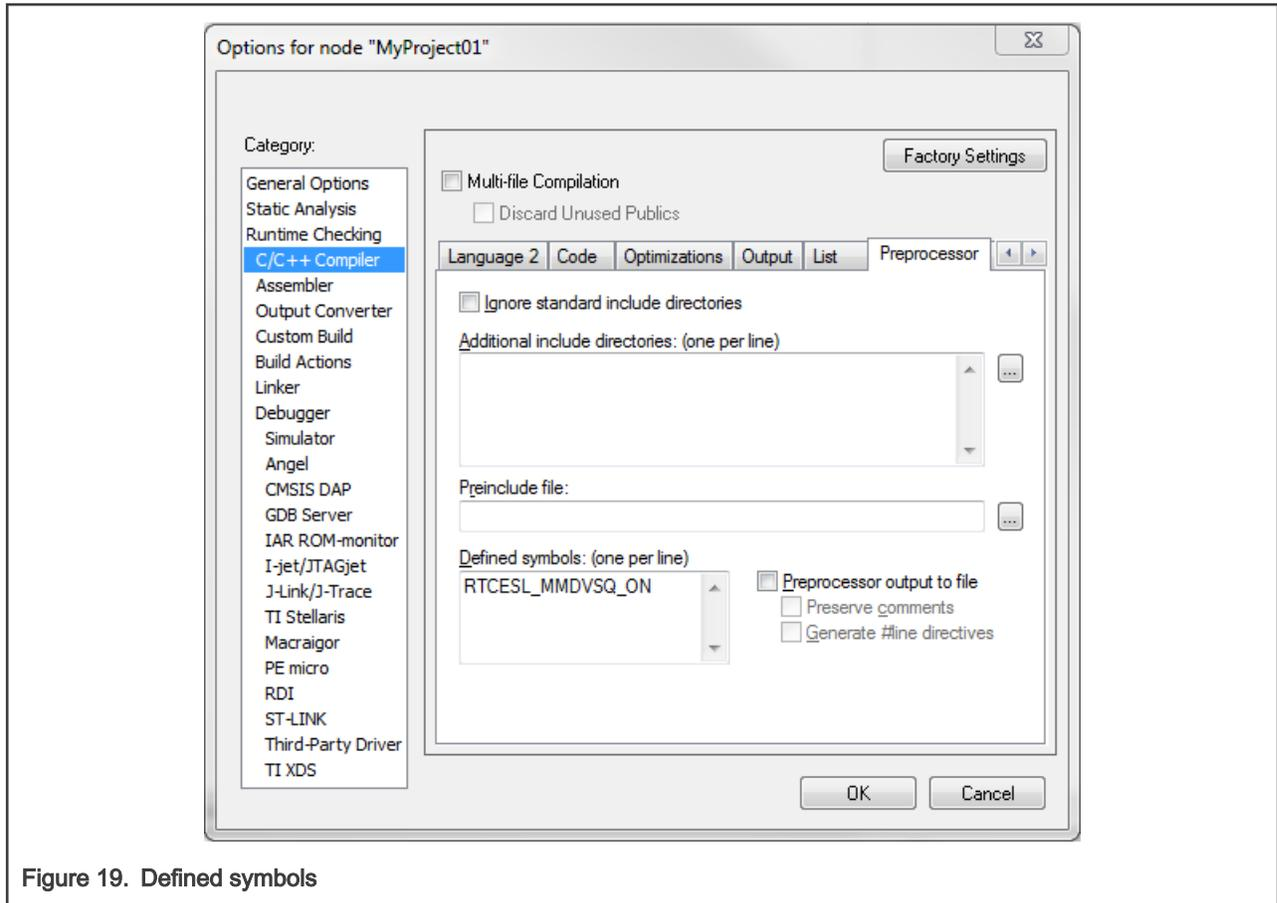

Figure 19. Defined symbols
4. In the text box (at the Defined symbols: (one per line)), type the following (See Figure 19):